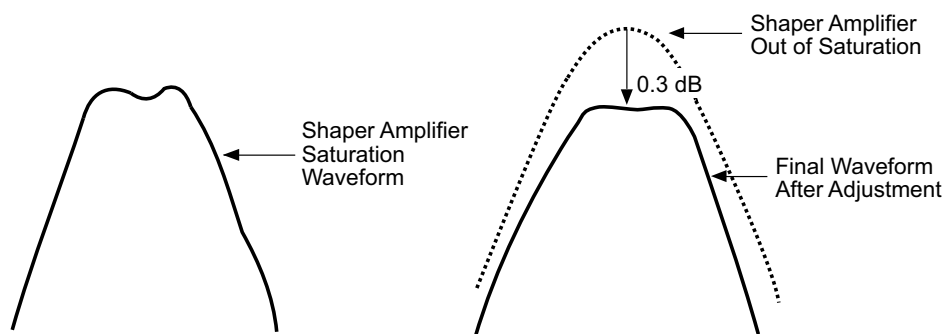

Figure 4-7. Limiter DAC Adjustment Waveforms
- c. Observe the displayed waveform to determine whether the shaper amplifier is being driven to saturation. This is indicated by a dip in the top of the waveform (Figure 4-7).